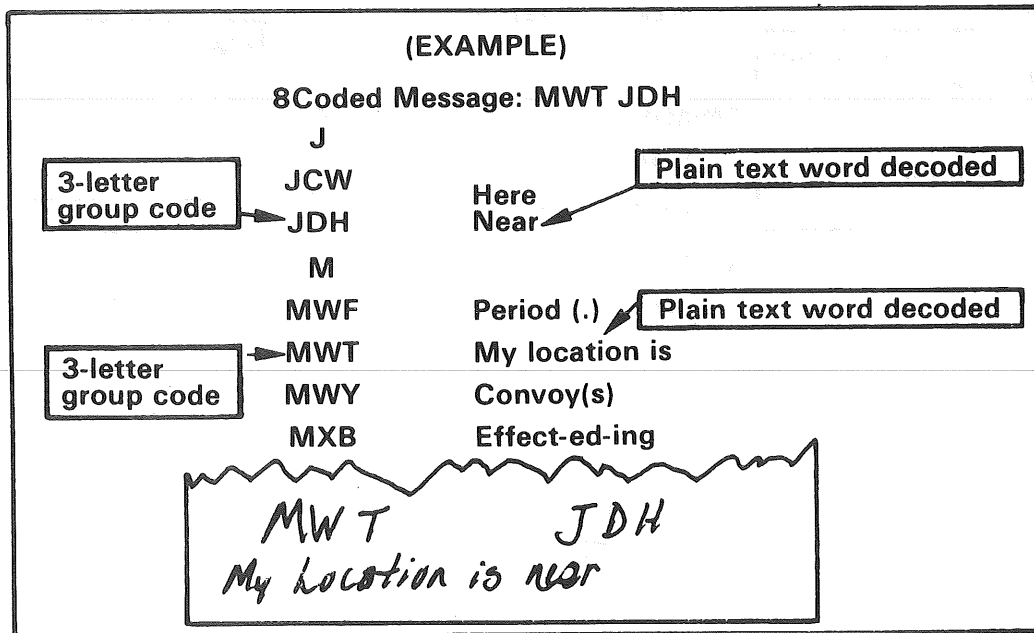

Figure 3. Sample Decode Page of KTC-600D.
- c. To decode a received message, find the code group and write the word or phrase on a separate sheet of paper as shown in figure 3.